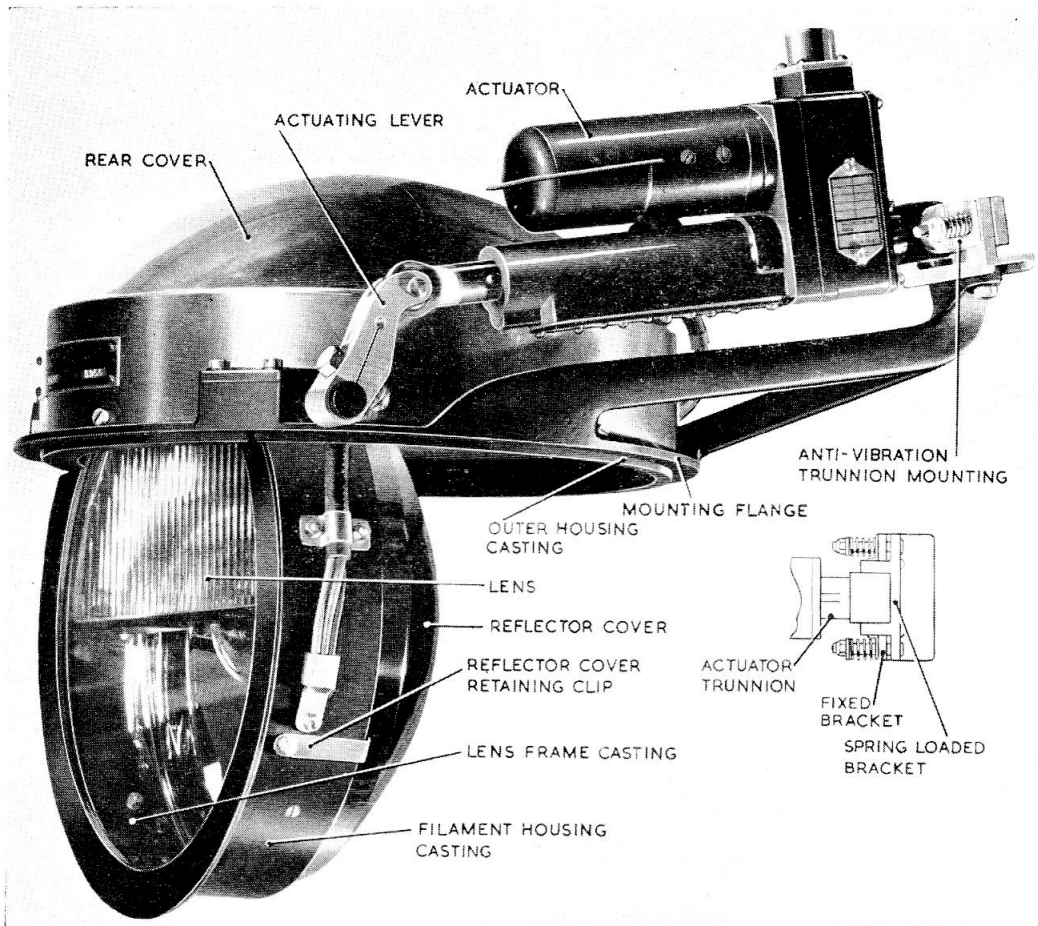
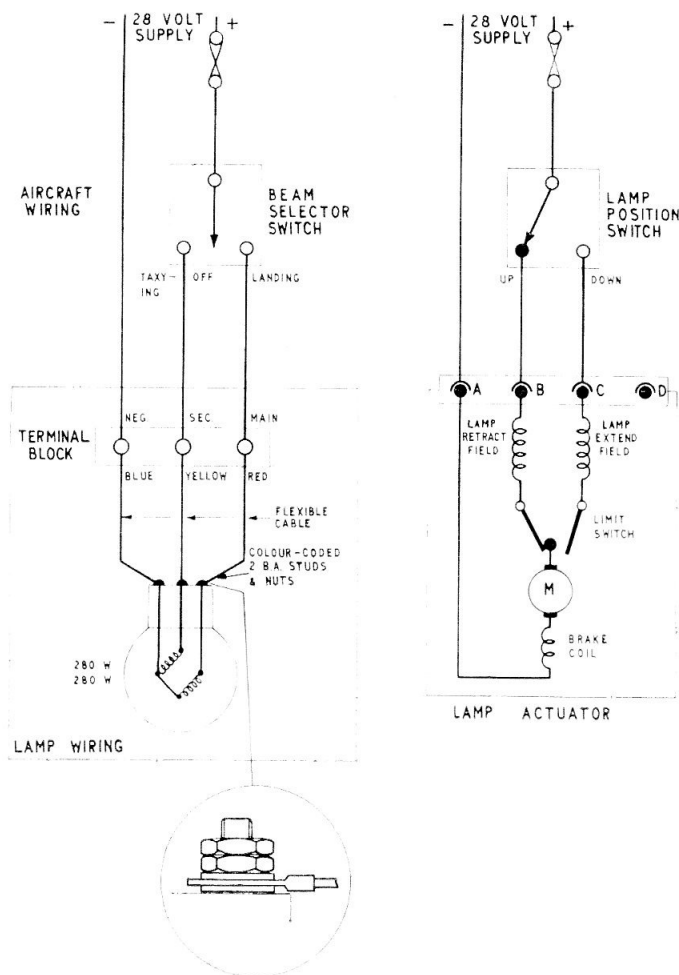

Fig.1. Landing Lamp, Harley, Type 8KDE.
Fig. 2. Circuit diagram
1. This lamp is similar to that described in the main chapter but has a linear actuator (Rotax A.0216) as the operating unit. Connection to the actuator is by means of a four pole plug (5X/6006) and socket (5X/6009) with pin D not used. A general view of the lamp is given in fig. 1 and a circuit diagram in fig. 2.